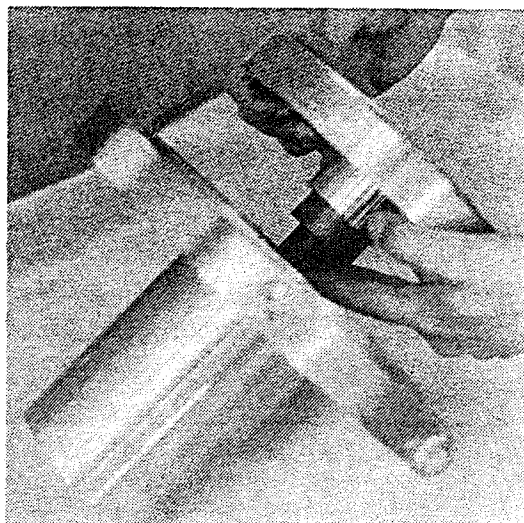

Figure 9
10. Carefully slide off the casing cover (Item 3). Both the bushing (Item 42) and the sleeve (Item 43) are now loose and may come out with the casing cover. Since both parts may be damaged if dropped, be prepared to hold them as the casing cover clears the shaft [Fig. 9].